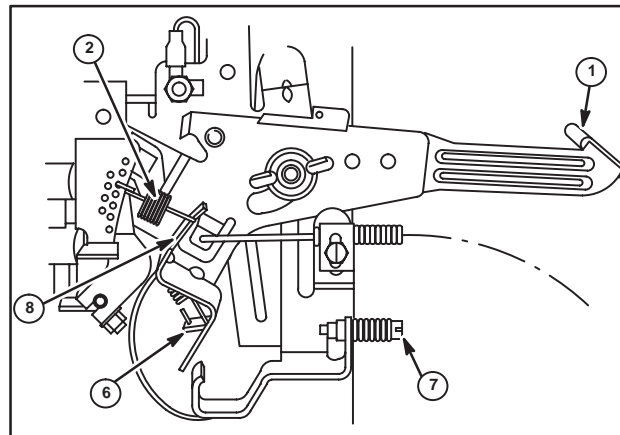

Fig. 26
**Adjust Dual Spring Governor (Figs. 26, 27)
Adjust Governed Idle (Figs. 26, 27)
(Figs. 26, 27)**